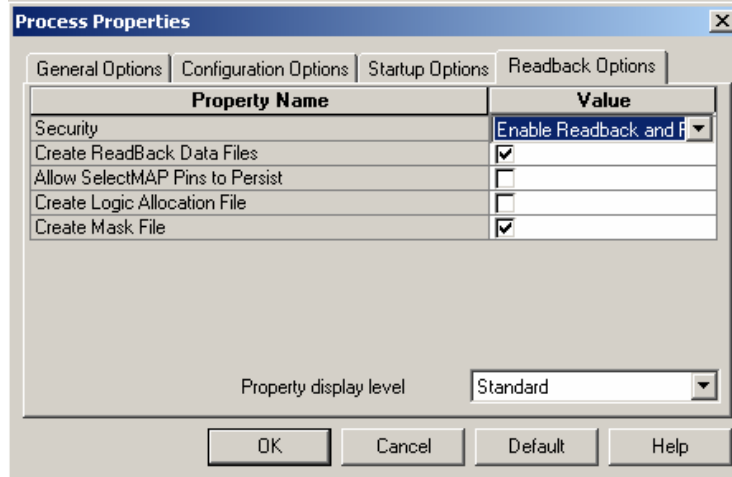

Figure 19. Readback options
9. Configuring generation of programming file process; Highlight top\_accumulator.vhd, right click on **Generate Programming File** in the **Processes for Source** window. Select the **Readback Options** tab. Click the check box to the right of **Create ReadBack Data Files** (see figure 19). Then click the check box to the right of **Create Mask File**. Click Ok.